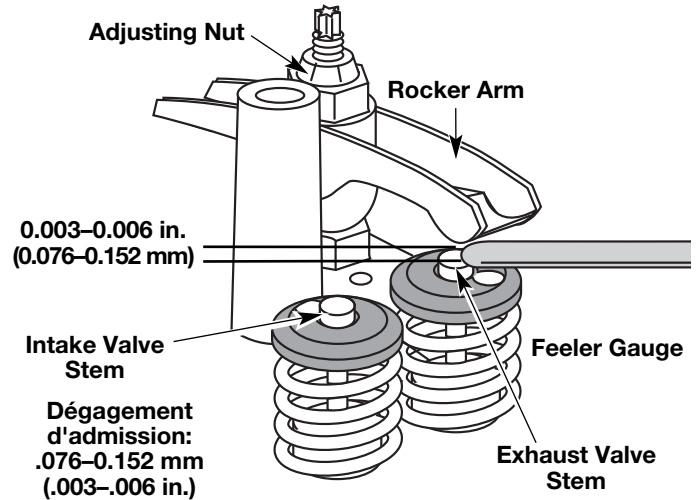

Fig. 27
- a. Turn the adjusting nut using a 5/16 inch (8 mm) wrench or nut driver (Fig. 27).